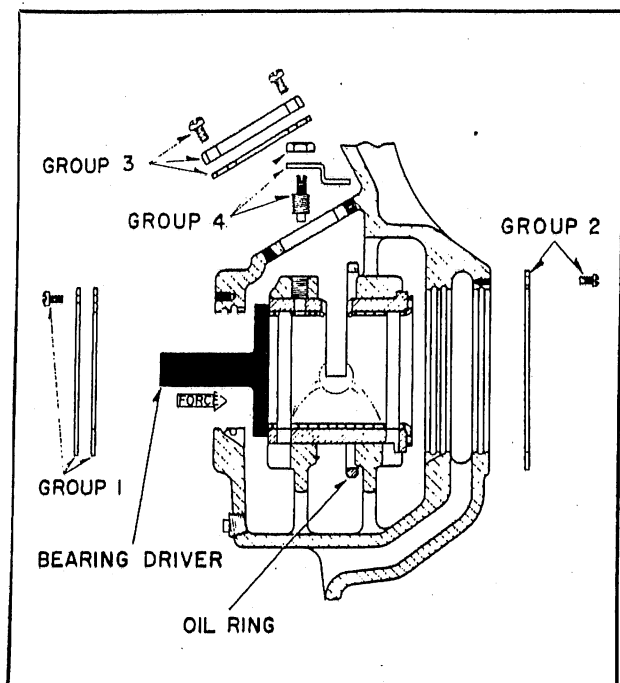

Figure 4 Detail of Solid Sleeve Bearing
5. Remove outer and inner bearing caps. (Group 1 and 2 of Fig. 4).
7. Tap the bearing out toward the inside by placing a bearing driver or rod against bearing shoulder. (See Fig. 4).